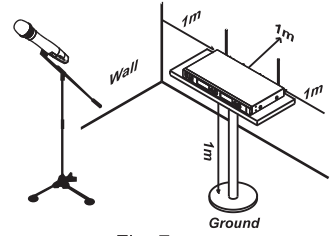

Fig. 7
4. For improving the reception range, install the receiver at least 1 meter above the ground and away from EMI / RFI "noise" sources. Also, place the transmitter at least 1 meter away from the receiving antenna. Fig. 7